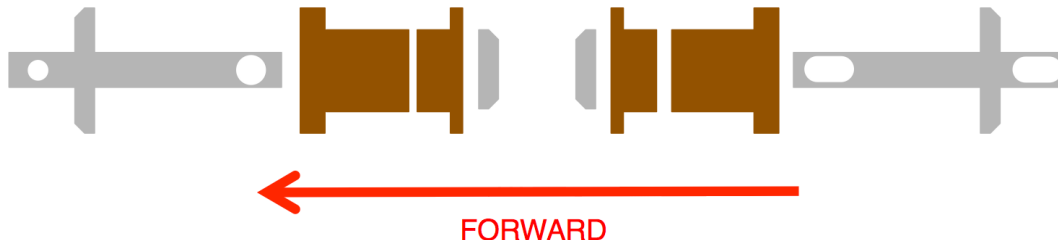

Figure 9. Assembly orientation of the upper front control arm dog bones for all kits (upper front and rear control arms for aluminum frame kits).
4. Upper control arms use trunnions (dog bones) instead of sleeves. To install the trunnions, refer to the location of the trunnion within the packaging. Front position trunnions have a small locating hole in the front position and a larger hole in the rear position (see the left side of Figure 9). Rear dog bones have two equal sized slots on each end of the dog bone (see the right side dog bone in Figure 9).